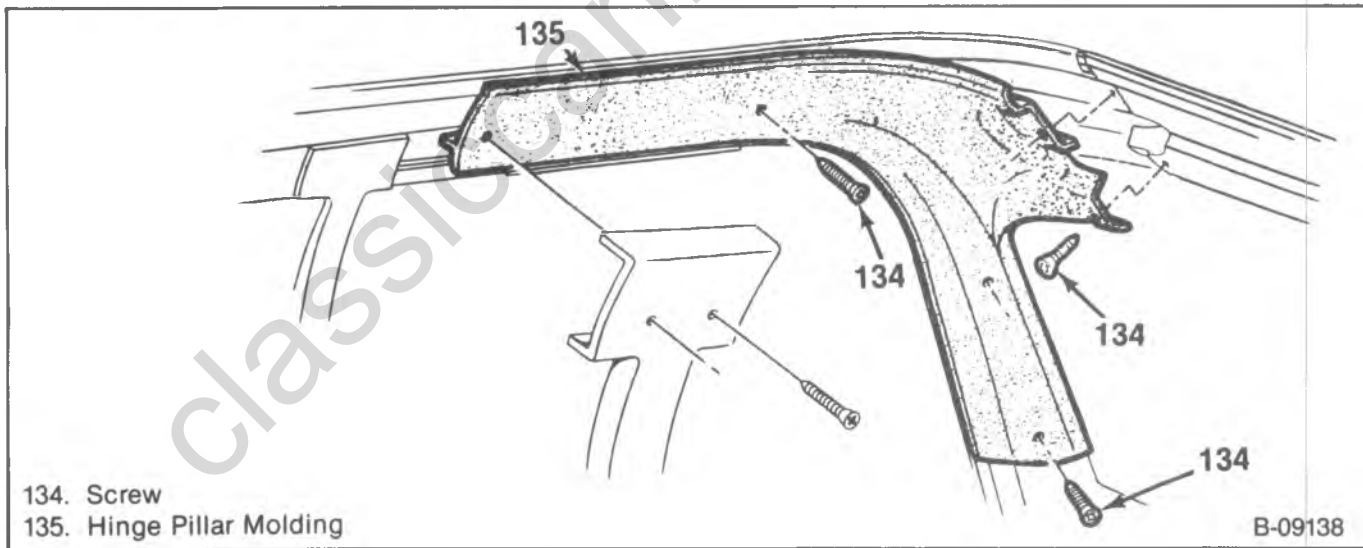

Figure 44—Hinge Pillar Molding
2. Front door hinge pillar molding screws and the front door hinge pillar molding (figure 44).
13. Front door hinge pillar molding and screws (figure 44).